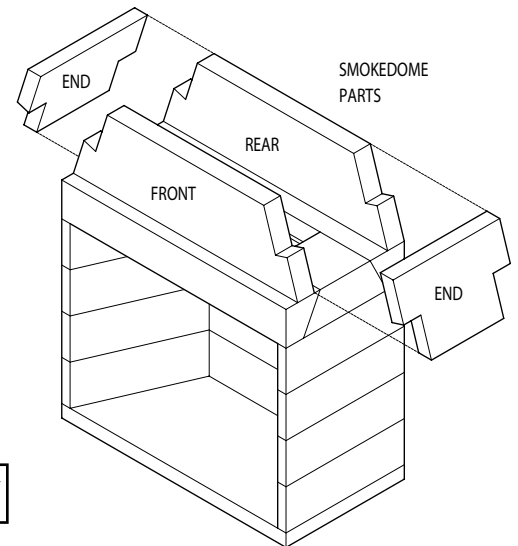

FIGURE 17
Step 8: Set the back smoke dome component across the damper beam in a bed of mortar and flush with the back face of the back damper plate lintel. (Figure 17)
Step 9: Position the smoke dome's sloping sidewalls at each end of the smoke dome components. (Figure 17)